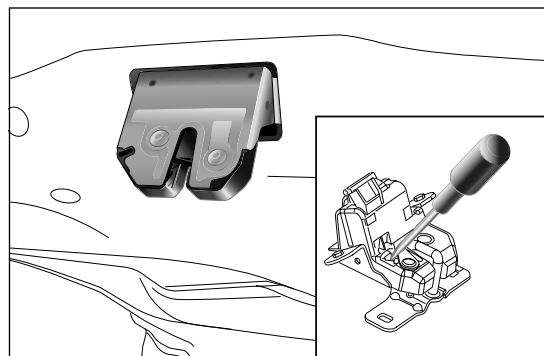

fig. 53
- ☐ remove the protective cap and release the lock using a screwdriver or the metal insert fig. 53.